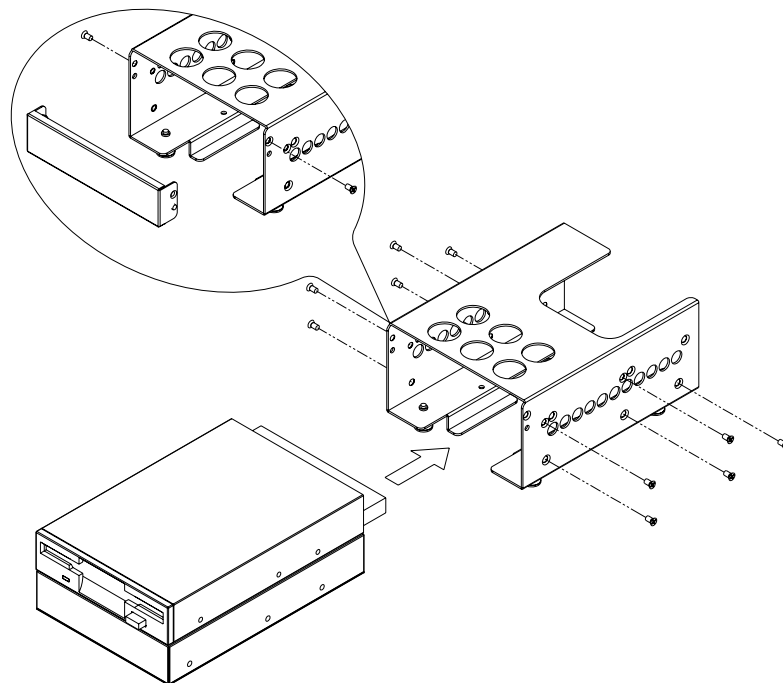

Figure 2.8 Installing 3.5" FDD or HDD into dirve bracket
2. Install the 3.5" HDD or FDD into the proper location in the bracket and secure them with the screws provided (Figure 2.8).